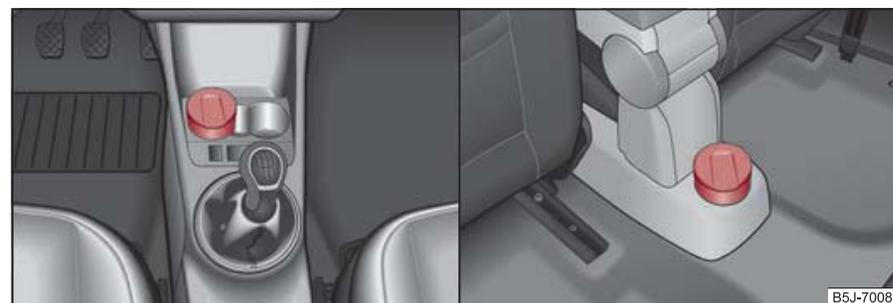

Fig. 77 Centre console: Ashtray at the front/rear
- Remove the ashtray ⇒ fig. 77 upwards. When removing do not hold the ashtray at the cover - risk of breakage.